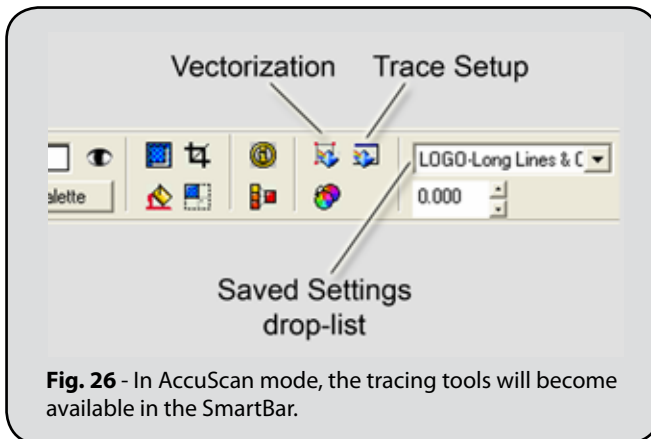

Fig. 26 - In AccuScan mode, the tracing tools will become available in the SmartBar.
3. At the far-right of the SmartBar, the controls for **Vectorization**, **Trace Setup**, and **Saved Settings** are available (Fig. 26).